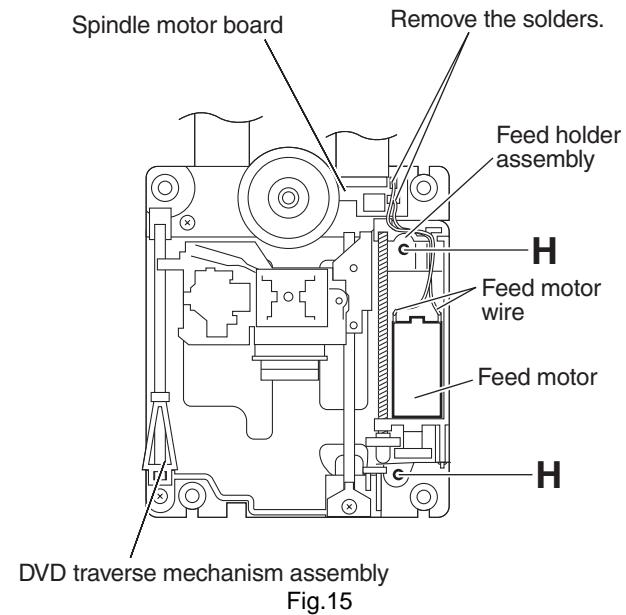

Fig.15
(See Figs.15 to 17)
- (1) From the top side of the DVD traverse mechanism assembly, remove the feed motor wire that is soldered to the spindle motor board. (See Fig.15.)
- (2) Remove the two screws **H** attaching the feed holder assembly and then take out the feed holder assembly. (See Fig.15.)